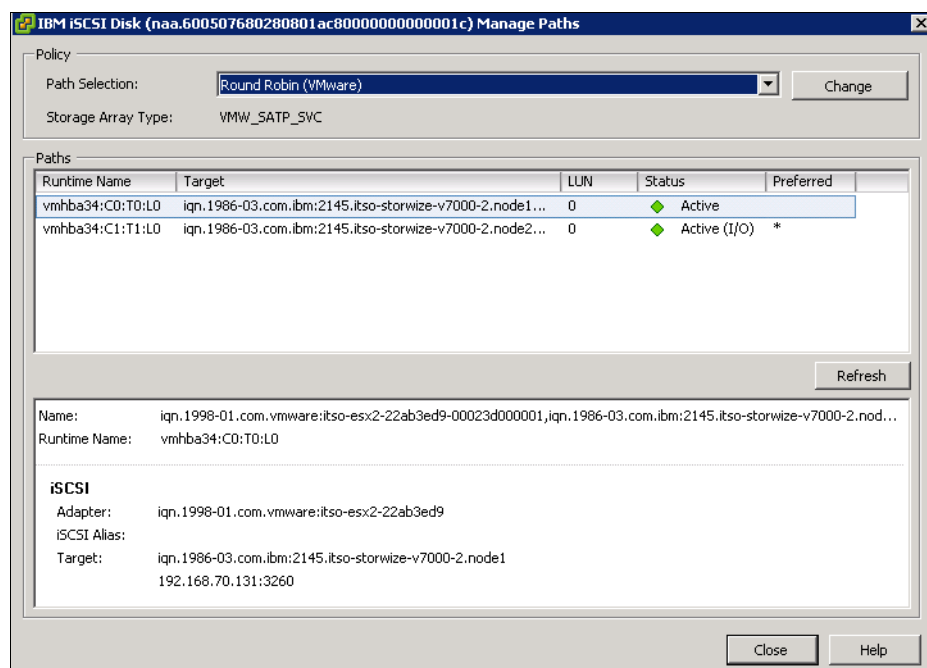

Figure 5-67 Change the multipath policy
14. Click **Manage Paths**, select **Round Robin** as the multipath policy (Figure 5-67), and then click **Change**.